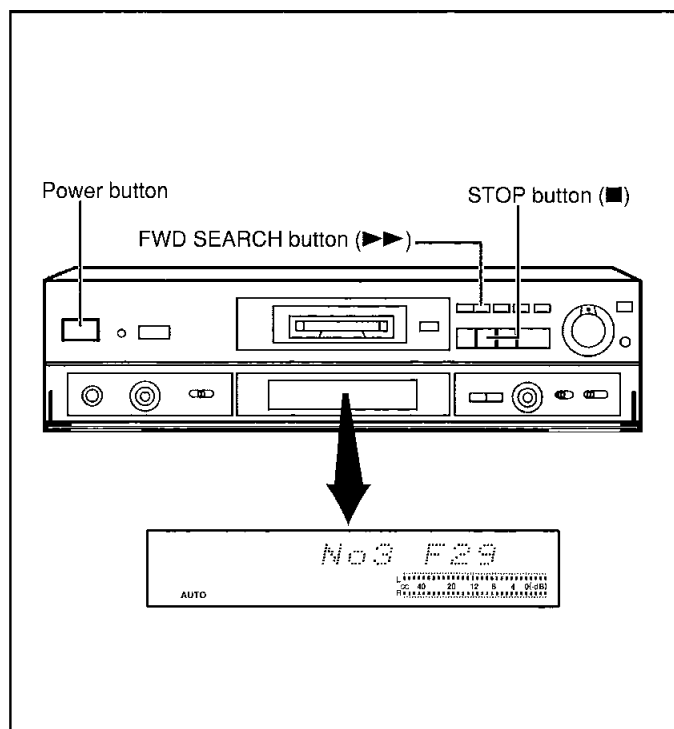

Fig. 1
2. Press and hold the STOP button (■) for at least 2 seconds. and while still pressing the STOP button (■), press the FWD SEARCH button (▶▶) for at least 2 seconds. (Shown in **Fig.1**) The unit enters Self-Diagnostic Mode and is displayed "MD TEST". Then an error code is displayed, if any. For details of the error codes, see **Table 1**.